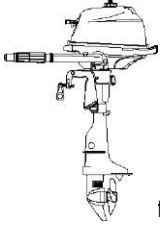
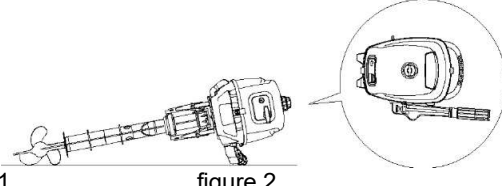

figure 3
figure 2
- Place a towel or something similar under the outboard motor to protect it from damage when as shown in the figure 2 or figure 3 above.